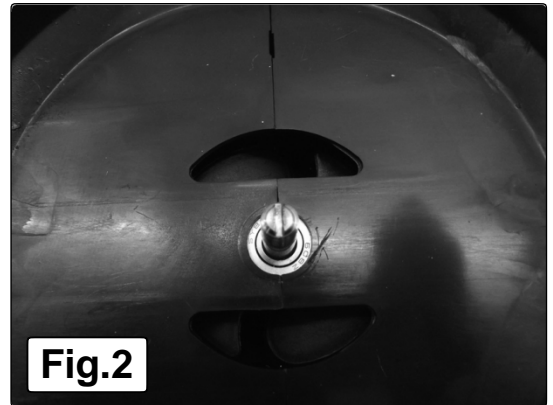

Fig.2
5.4.5. Undo the motor shaft using a slotted screwdriver. It has a reversed thread, turn it clockwise to undo it and anti-clockwise to tighten it, see fig.2.